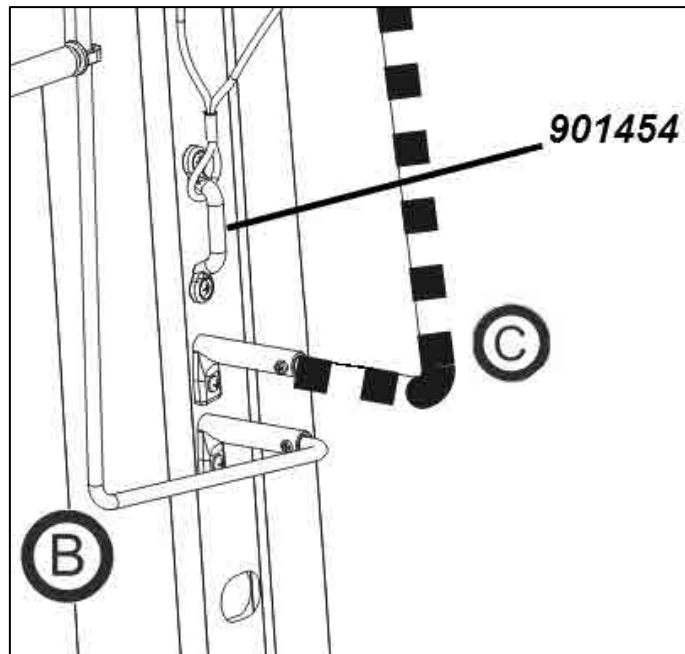

Figure 5: Location B and "C"
- 8) Remove existing support. (Fig. 5).
- 9) Install #901454 rope guide (Fig 5)
- 10) New parts serve as drilling template. Mark hole locations using punch. Drill 9/64"holes. (Fig 5) Fix with three #5001119 screw. (Fig. 5)